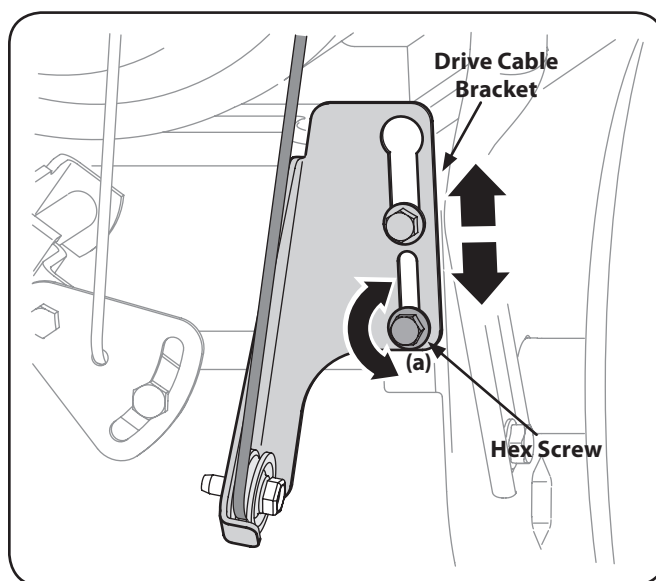

Figure 6-9
2. Loosen the lower hex screw (a) on the drive cable bracket. See Figure 6-9.